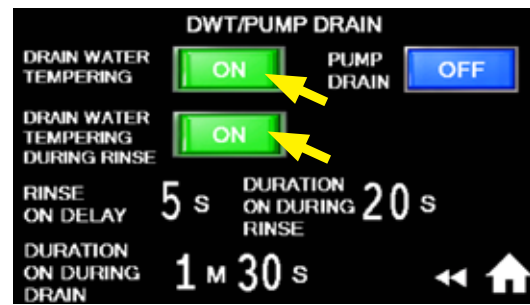

Fig. 96 - Drain water tempering settings
2. Refer to (Fig. 96). DWT is installed and configured as needed at the factory. The default settings are OFF. The default time the cold water valve is energized during drain is 1 minute 30 secs. The Default time during the final rinse is a 5 sec. delay followed by a 20 sec. run time.